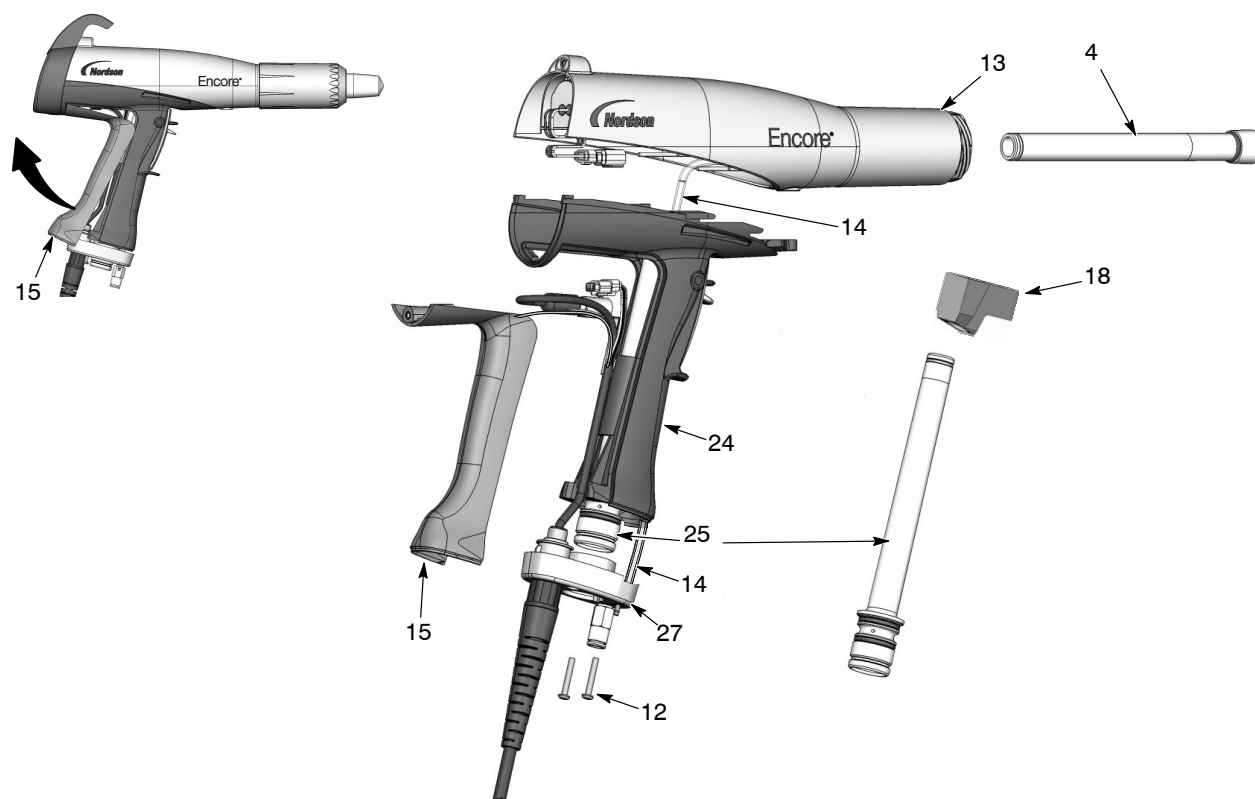

Figure 6-4 Powder Path Replacement
1. See Figure 6-4. Remove the elbow (18) from the inlet tube (25).
2. Remove the two M3 x 20 screws (12) from the handle base (27). Pull the base away from the handle, swinging the bottom of the ground pad (15) up and away from the handle, then remove it. Leave the ground wire connected to the ground pad.
3. Push the inlet tube (25) up and out of the base, then move the base out of the way and pull the inlet tube out of the handle.
4. Push the outlet tube (4) out of the front of the gun body (13).
1. See Figure 6-4. Install the outlet tube (4) into the gun body (13), with the end of the tube flush with the end of the gun.
2. Install the inlet tube (25) into the handle (24), then install the end of the tube into the handle base (27).
3. Push the handle base close to the handle, then hook the top end of the ground pad (15) into the body and rotate it onto the handle. Make sure the cable wires are not pinched or trapped during re-assembly.
4. Install the handle base onto the handle and ground pad and secure it with the two M3 x 20 screws (12).